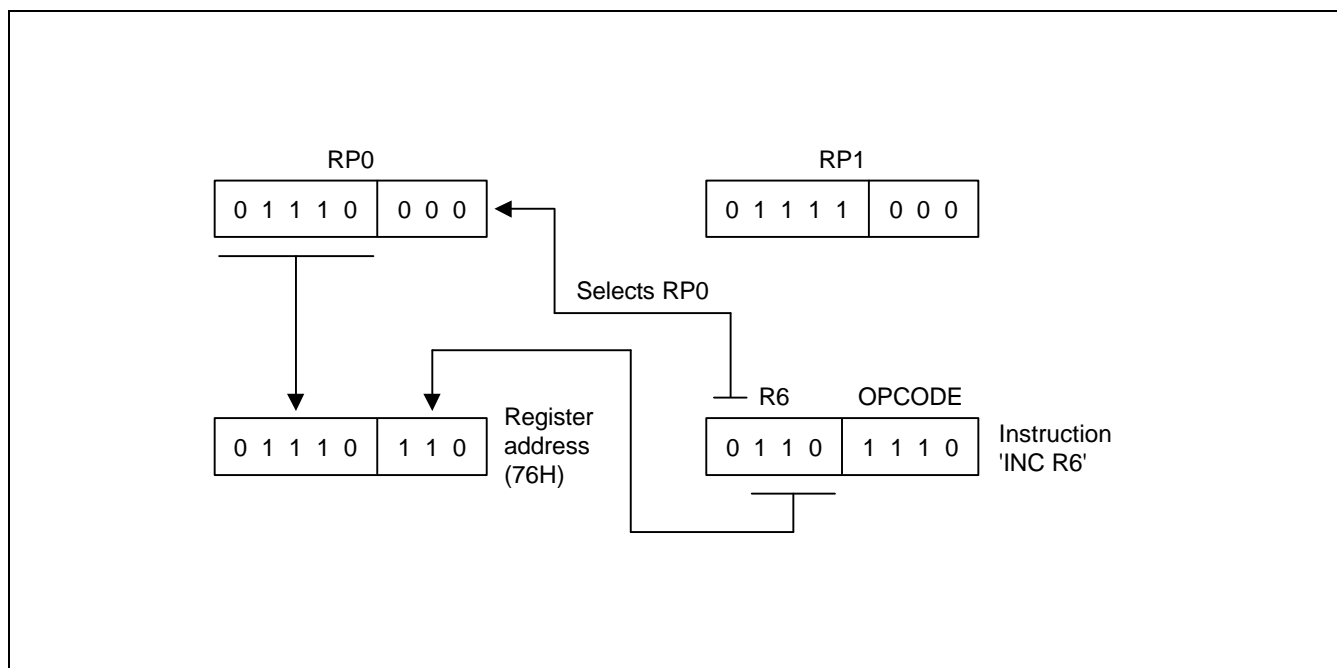

Figure 2-15. 4-Bit Working Register Addressing Example
Return addresses for procedure calls and interrupts and data are stored on the stack. The contents of the PC are saved to stack by a CALL instruction and restored by the RET instruction. When an interrupt occurs, the contents of the PC and the FLAGS register are pushed to the stack. The IRET instruction then pops these values back to their original locations. The stack address is always decremented *before* a push operation and incremented *after* a pop operation. The stack pointer (SP) always points to the stack frame stored on the top of the stack, as shown in Figure 2-15.